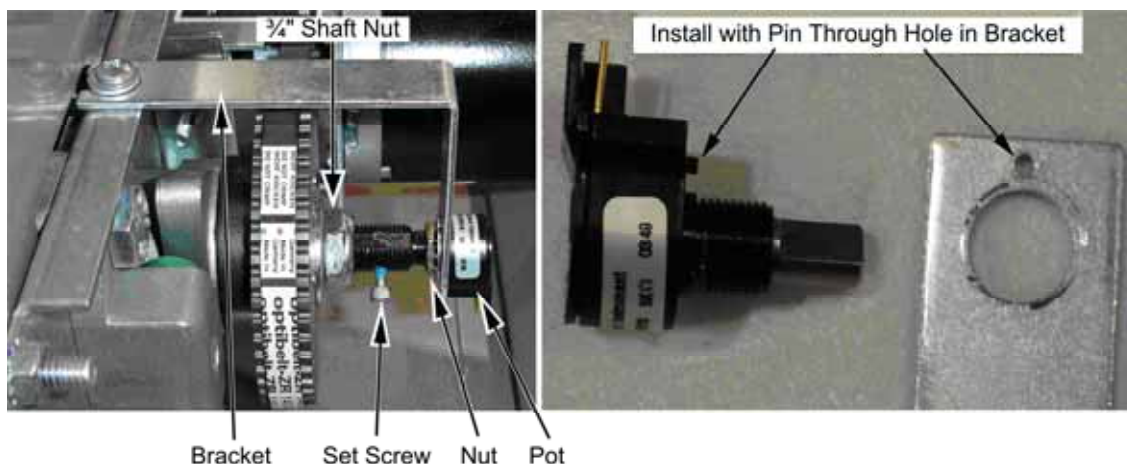
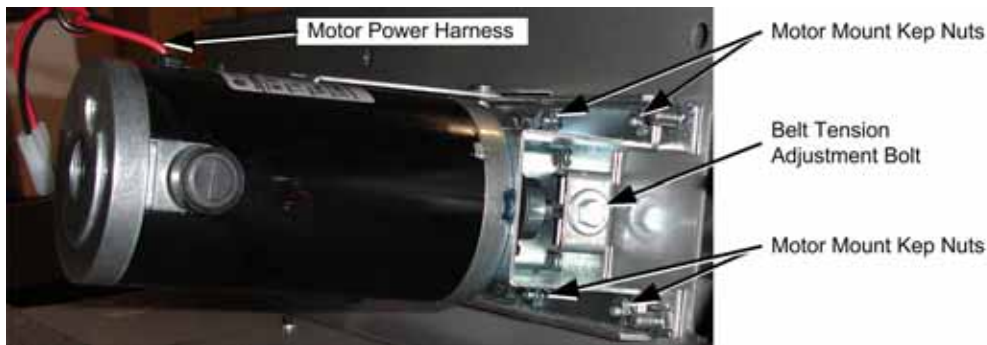

Figure 20. Replacing the 5 K $\Omega$  Steering Pot
Figure 21. Servicing the Steering Motor
To replace a pot, refer to Figure 20 and perform the following steps:
4. Reverse these steps to install the new pot. Install the pot with the plastic pin through the small hole in the bracket, as shown in Figure 20 below. Use Loctite to ensure the set screw is secure.
Refer to Figure 20 above, and Figure 21, and perform the following steps to remove the force-feedback belt for repair. Always replace the belt if it looks cracked or worn.
2. Using a 7/64 Allan wrench, loosen the set screw from the steering column and remove the bracket with the pot attached (see Figure 20).
3. Loosen the four (4) 3/8" motor mount Kep nuts that secure the steering motor to the frame (see Figure 21).
4. Using a 10mm socket wrench, loosen the belt tension adjustment bolt several turns until you can slip the belt off of the motor and steering gears (see Figure 21).
6. To replace the motor, remove the four (4) 3/8" Kep nuts that you loosened in step 2, and remove the motor.
1. Tighten the tension adjustment bolt on the motor assembly, shown in Figure 21, until the belt is fully stretched, and then loosen the bolt by ½ turn.